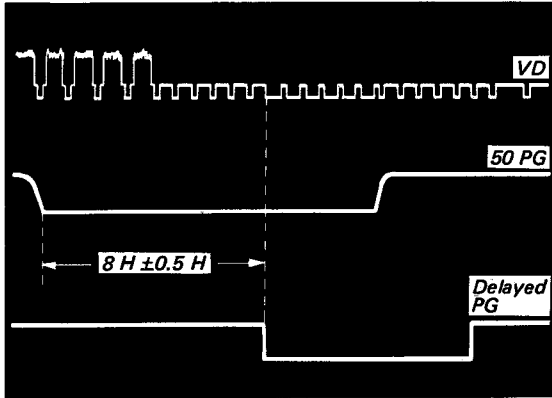

Fig. 4-4.
- Adjust the 25 PG coil so that the 50 PG pulse leads the VD pulse by $8 H \pm 1 H$. See Fig. 4-4.